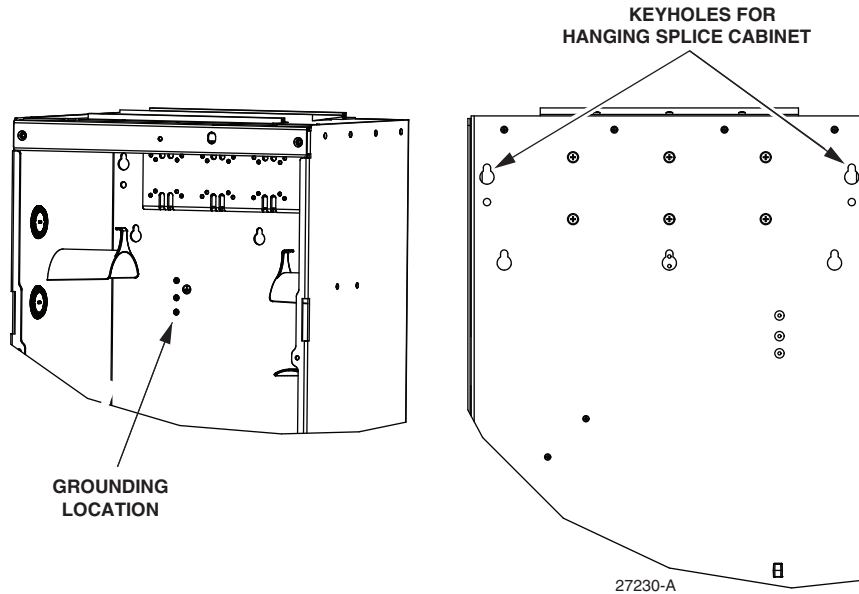
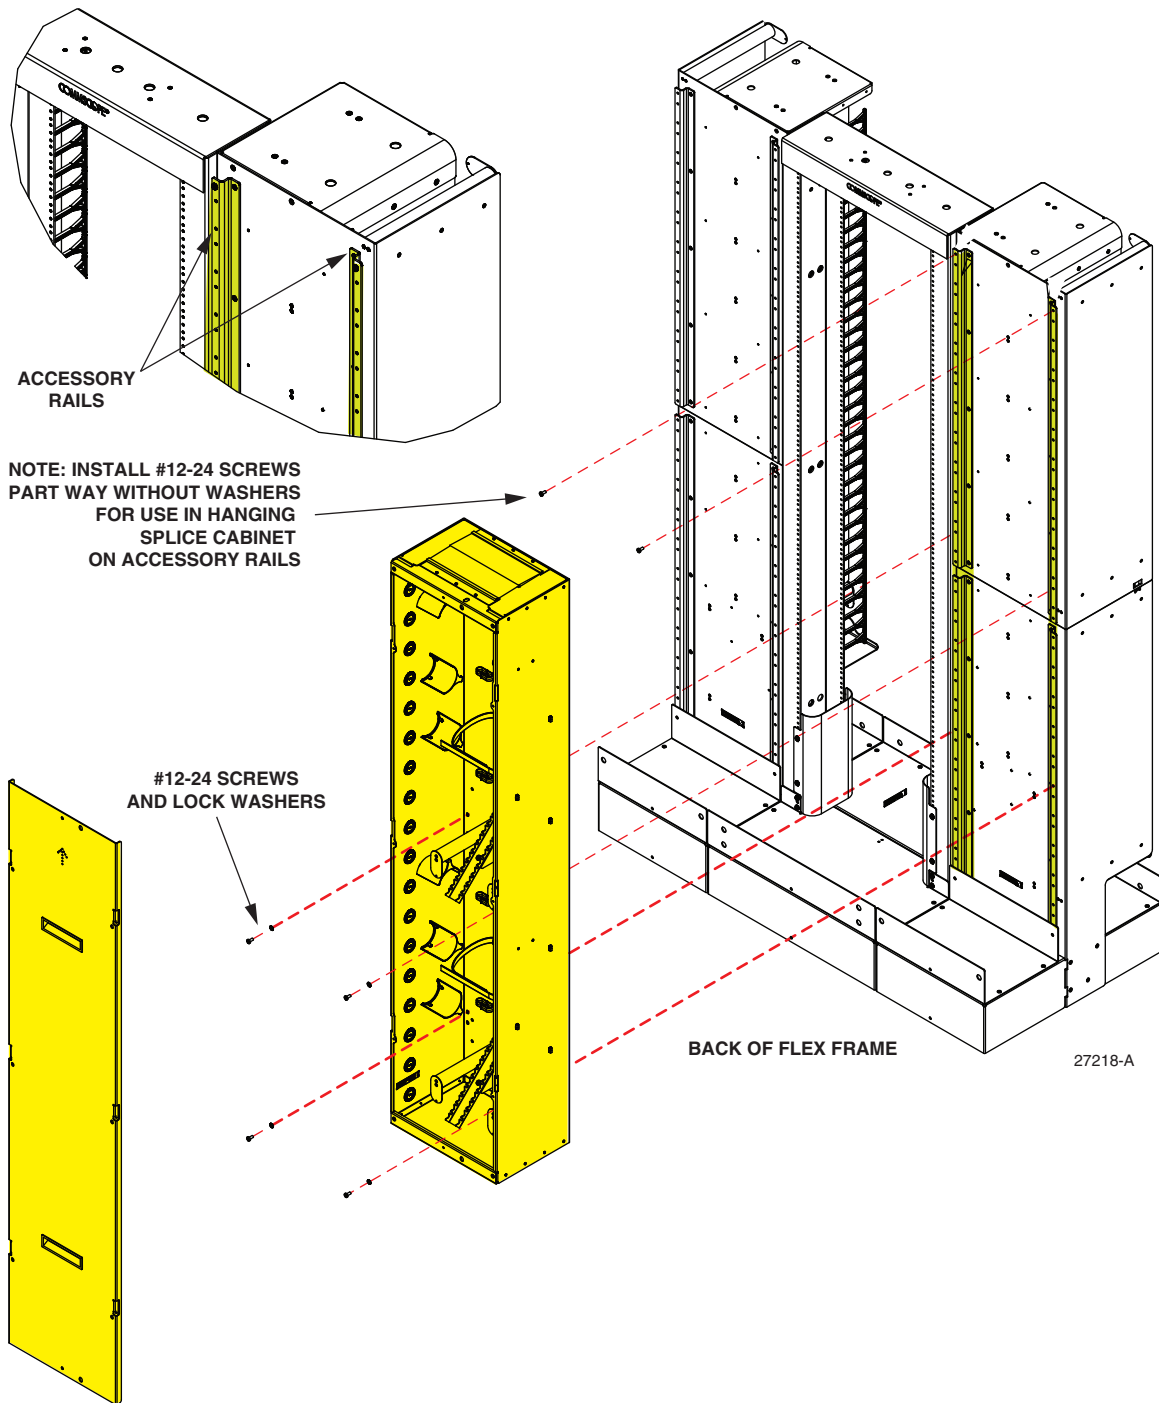

Figure 21. Keyholes for Hanging Splice Cabinet
Figure 22. Installing the Splice Cabinet
The splice cabinet (optional) is installed on the right cable manager (when viewed from the rear). Within the splice cabinet are a grounding location, shown in Figure 21, and two keyholes, also shown, for hanging the cabinet on screws installed in the accessory rails.
2. Hang the splice cabinet on the screws just installed and fasten the cabinet using #12-24 screws. Refer to Figure 21 and also to Figure 22 on Page 22.